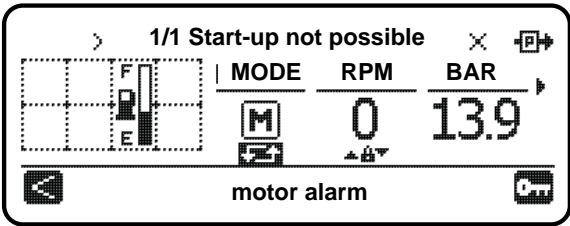

Fig. 34
4. If the MOTORMATIC controller is powered on and connected, the following screen will appear (Fig. 34).